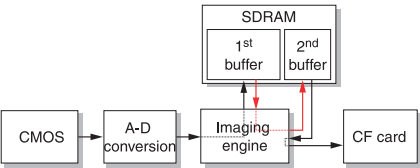

Fig. 2-10 Image-processing flow.
- * Despite the EOS D60's higher number of pixels (more data per shot), the maximum continuous shooting speed of 3 fps is maintained and the maximum burst during continuous shooting is also maintained at the same level as the EOS D30's. To achieve this, the buffer memory was increased and the image processing that the EOS D30 executed during continuous shooting was eliminated (as shown by Fig. 2-10's red arrows, the image is processed in accordance with the stipulated image quality and parameters from the 1st to 2nd buffers). As a result, the maximum burst is always 8, limited only by the 1st buffer memory's capacity.